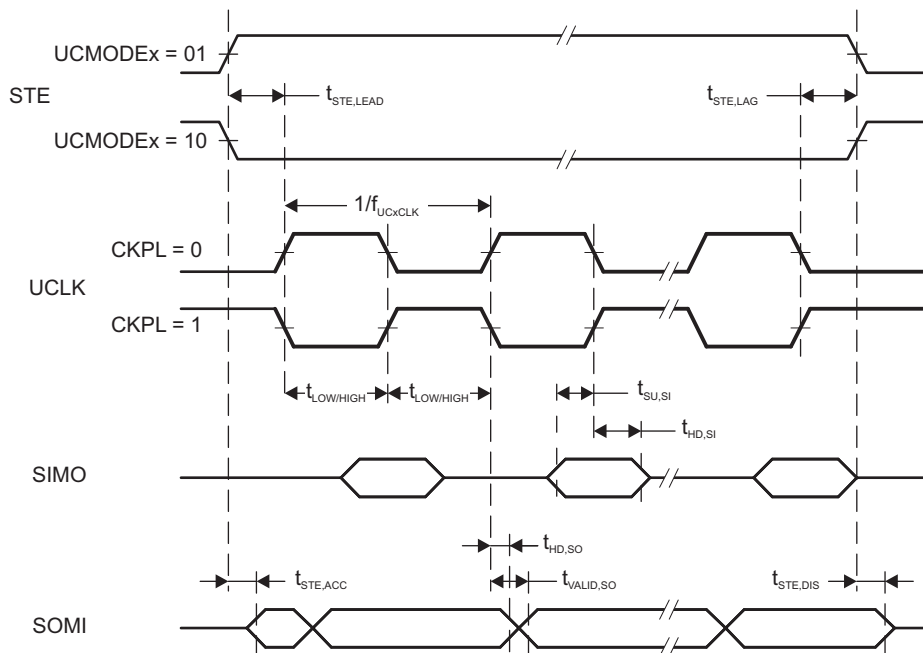
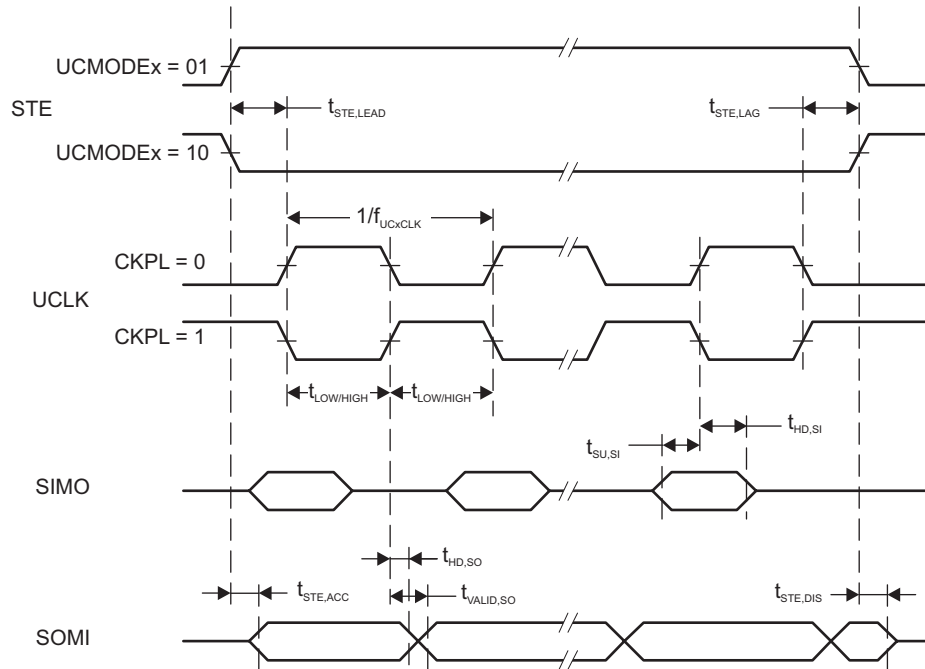

Figure 5-71. SPI Slave Mode, CKPH = 0
Figure 5-72. SPI Slave Mode, CKPH = 1
- (1) $f_{UCxCLK} = 1/2t_{LO/HI}$ with $t_{LO/HI} \geq \max(t_{VALID,MO(Master)} + t_{SU,SI(eUSCI)}, t_{SU,MI(Master)} + t_{VALID,SO(eUSCI)})$. For the master parameters $t_{SU,MI(Master)}$ and $t_{VALID,MO(Master)}$ see the SPI parameters of the attached slave.
- (2) Specifies the time to drive the next valid data to the SOMI output after the output changing UCLK clock edge. See the timing diagrams in Figure 5-71 and Figure 5-72.
- (3) Specifies how long data on the SOMI output is valid after the output changing UCLK clock edge. See the timing diagrams in Figure 5-71 and Figure 5-72.